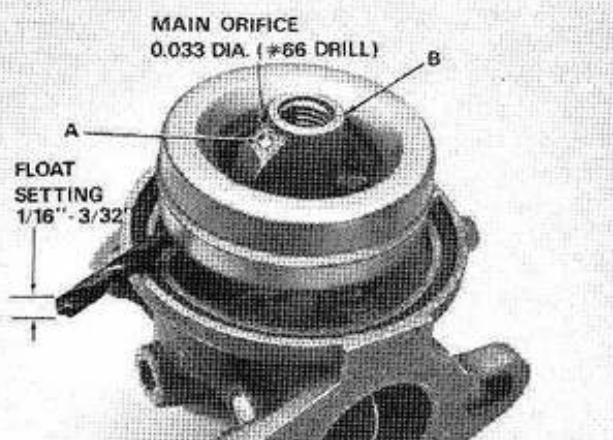

Figure 96. Fixed Jet Carburetor.
In Figure 94 the atmospheric vent hole (L) must be thoroughly blown out when cleaning the carburetor. See Figure 89 for the location of the atmospheric vent hole (E) on the fixed jet carburetor. The fixed jet carburetor illustrated in Figure 96 does not contain a high-speed adjusting needle. The fuel flows directly from the float bowl housing into the main orifice (A). On early production the main orifice is located at point (B). When cleaning the main orifice, use a No. 66 drill which is .033 in diameter. Also on late model fixed jet carburetors there are three idle fuel feed holes. The third hole will be located below the letter S in Figure 95.